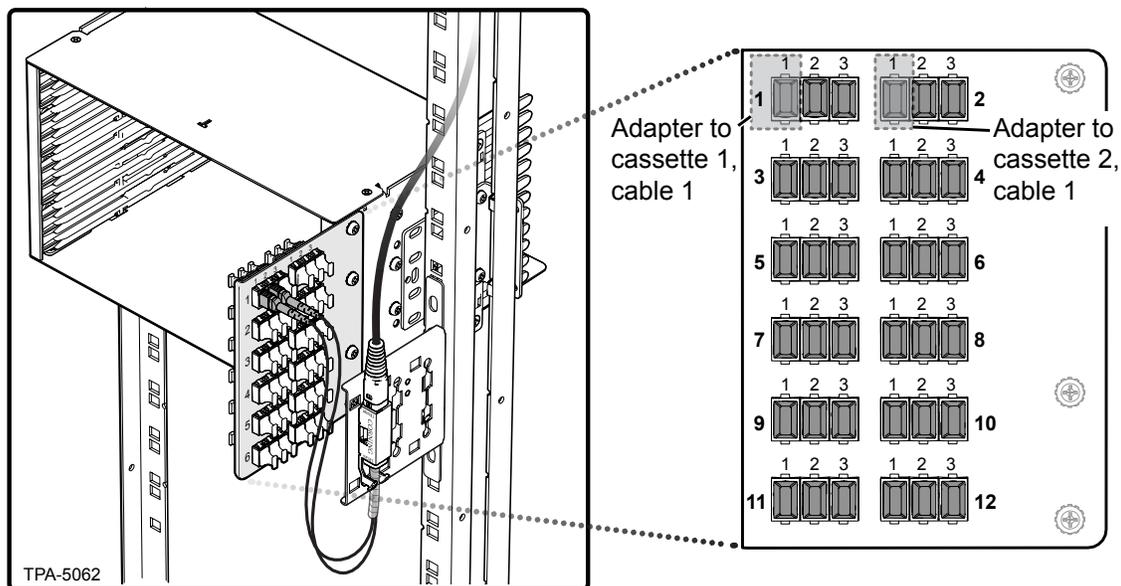

Figure 4
**Step 6:** Mate connectors into the adapters in the order listed on the bracket (Figure 4). For instance, the first input cable to the first leg of the first cassette connects to adapter 1:1; the first input cable to the first leg of the second cassette connects to adapter 2:1.